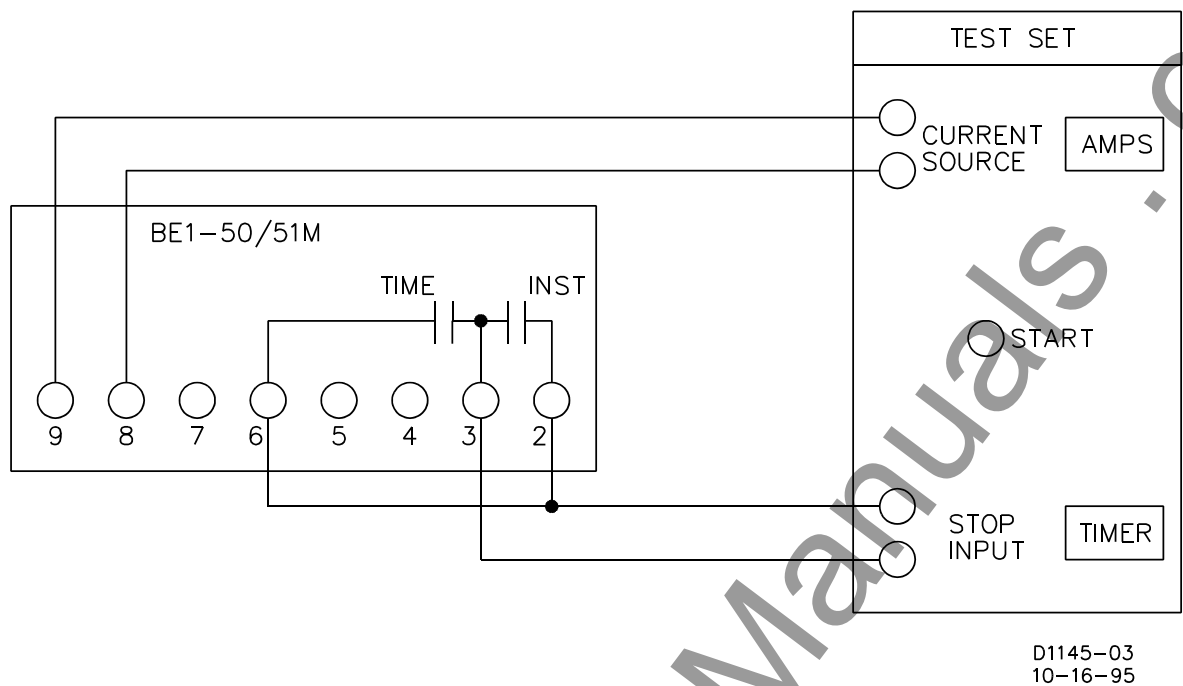

Figure 5-1. Pickup and Timing Test Setup
The following procedure verifies operation of the relay. The test setup of Figures 5-1 and 5-2 are intended primarily as an illustration of the principles involved. Other test setups known to be capable of testing with the stated and implied tolerances (including equipment specifically designed for testing relays) may be used.
- Connect test setup as shown in Figure 5-1.
This protection scheme also allows one unit at a time to be withdrawn for testing purposes without losing protection during the test. Refer to Figures 5-1 and 5-2 for recommended test setups.